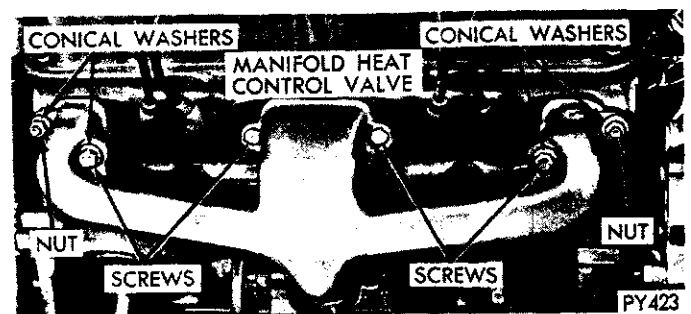

Fig. 10—Installing Exhaust Manifold—318 Engine
- (1) Position two outboard arms of manifolds on the two studs on cylinder heads, using new gaskets. Install conical washers and nuts on studs (Fig. 10).
- (2) Install two screws and conical washers at inner ends of outboard arms of manifold. Install two screws without washers on center arm of manifold (Fig. 10). Tighten screws and nuts, starting at center arm and working outward, to 20 foot-pounds.
- (3) Assemble exhaust pipe to manifold, and secure with bolts, nuts and washers. On 318 cubic inch engine, tighten to 24 foot-pounds. On 340 cubic inch engine, tighten nuts to 50 foot-pounds.